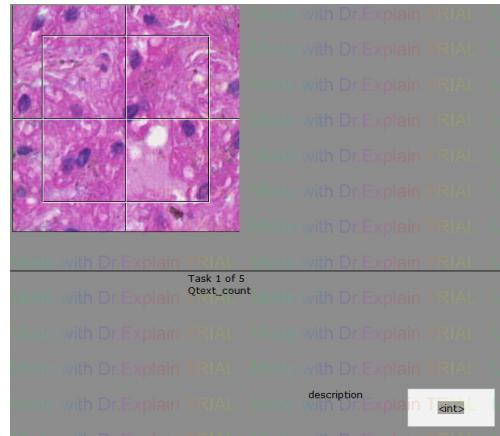

Figure 2
1. Enter the number of cells that appear to accommodate the description (*Figure 2*)